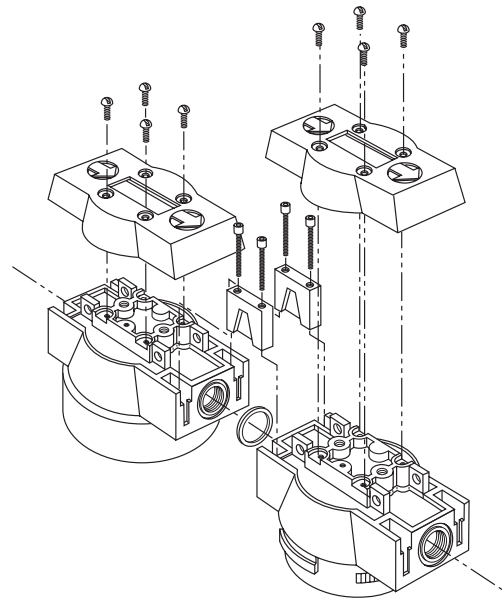

Figure 1.3
- a. Bayonet type heads (see Figure 1.3)